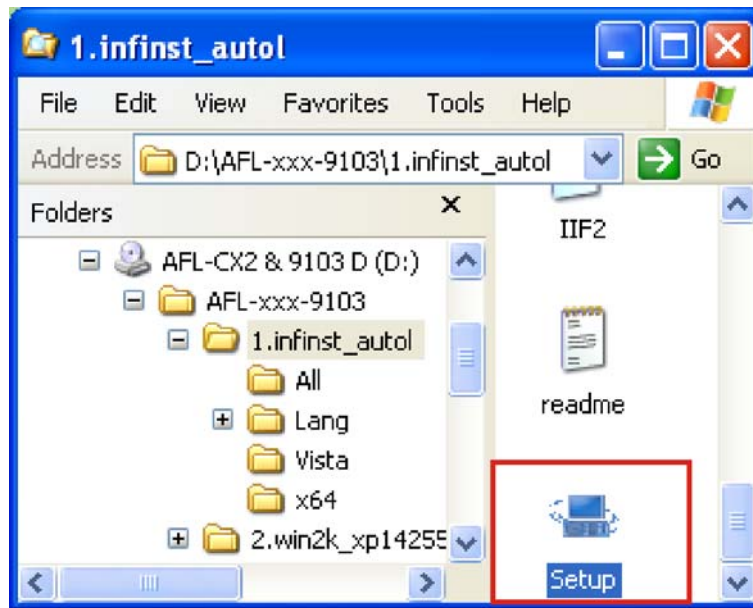

Figure 6-2: Chipset Driver Icon
Step 2: The browser window opens (Figure 6-2).
Step 3: Double-click the **SETUP** icon to start the driver installation program (Figure 6-2).